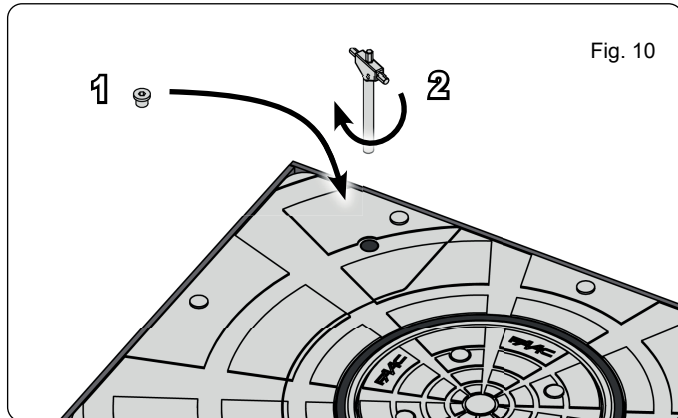

Fig. 10
2. Turn clockwise till end of stroke (fig. 10 ref.1).
3. Tighten again the closing screw on the bollard head (fig. 10 ref.2).